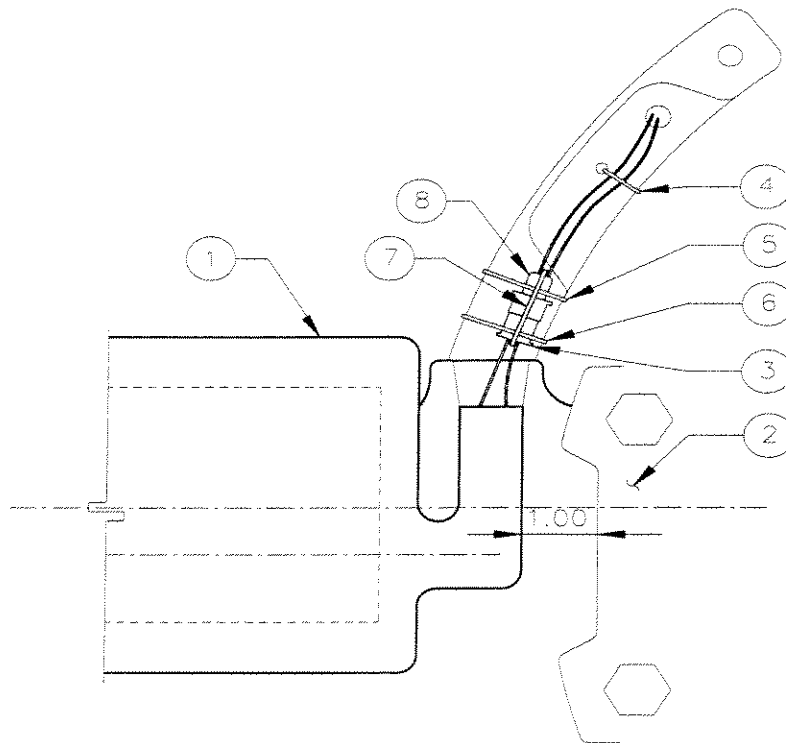

Figure 2 – Anti-Ice Boot Installation
- (20) Install electrical connectors, wire harness leads, and tie-straps in the following order.
- (a) Route slip ring wire leads through hole in counterweight as shown in Figure 2.
- (b) Connect anti-ice boot wire connector (3) to slip ring wire connector (8).
- (c) Install small tie-strap (7) between leads and around assembled connector. (Do not tighten).
- (d) Install second small tie-strap (4) securing slip ring wire leads to counterweight. (Do not tighten).
- (e) Install two medium tie-straps (5) & (6) through the small tie-wrap in step (c) securing connector assembly to counterweight in two locations. (Do not tighten).